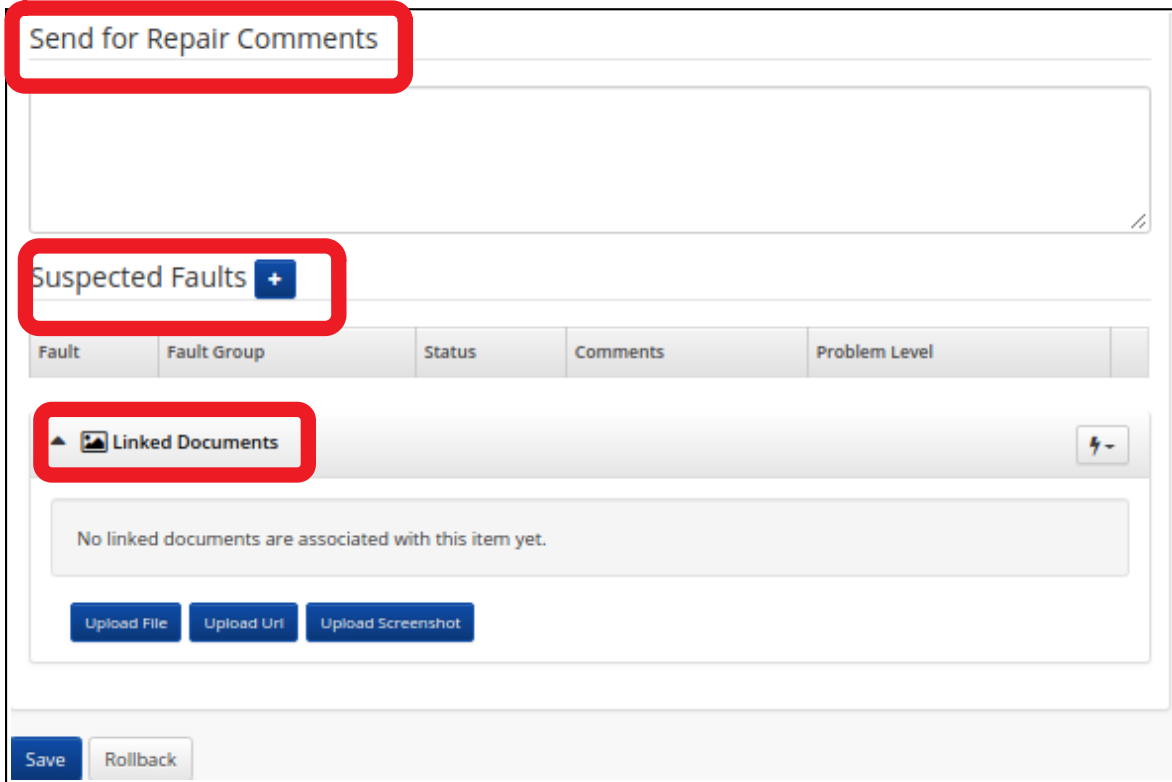

Figure 7
→ You have the option to add Send for Repair Comments or Linked Documents (Fig. 7). You may also add *Suspected* Faults by clicking the + symbol to the right. This will bring up the Fault List window (Fig. 8).
- Click Save at the bottom of the page (Fig. 7). This will bring up the Changes Saved page (Fig. 10). The equipment has now been sent for repair.